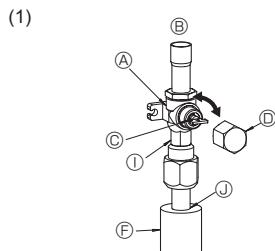
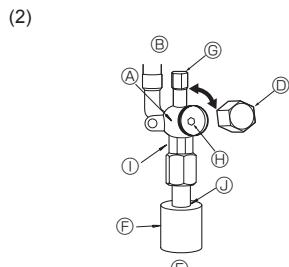

Fig. 4-6
Fig. 4-7
- (1) Gas side (Fig. 4-6)
- ① Remove the cap, pull the handle toward you and rotate 1/4 turn in a counter-clockwise direction to open.
- ② Make sure that the stop valve is open completely, push in the handle and rotate the cap back to its original position.
- (2) Liquid side (Fig. 4-7)
- ① Remove the cap and turn the valve rod counter-clockwise as far as it will go with the use of a 4 mm hexagonal wrench. Stop turning when it hits the stopper.